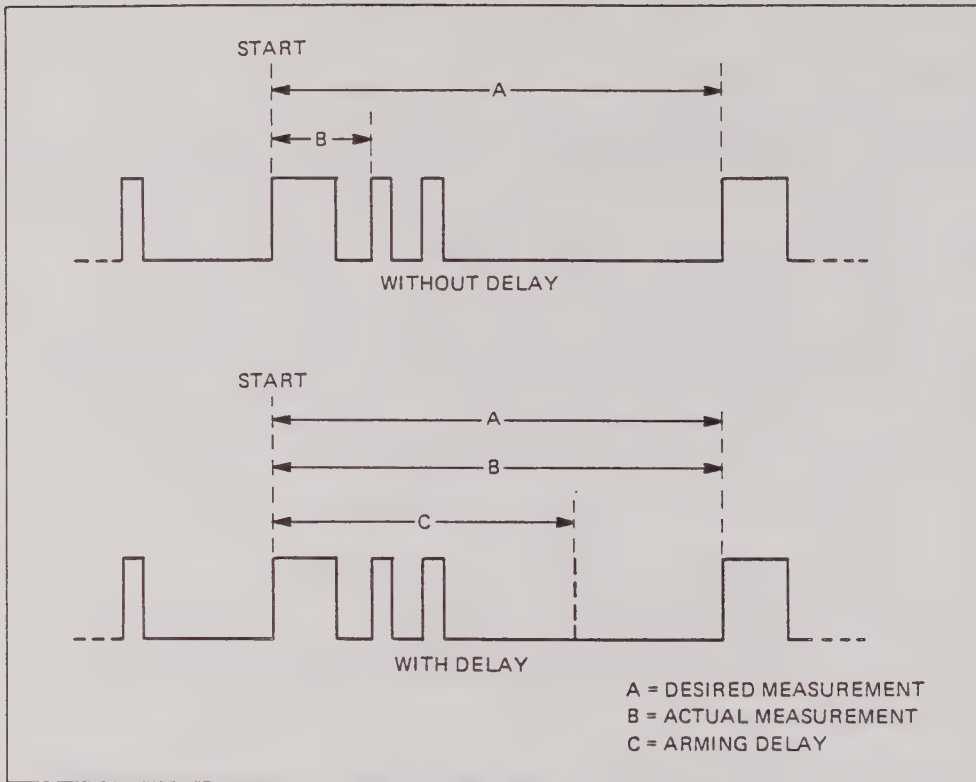

Figure 3-2. Use of Stop Arm Delay
3.5.4.2 The stop arm delay can be useful in preventing premature triggering of the stop circuit by spurious signals (e.g., those resulting from relay contact bounce). Figure 3-2 shows the principle of the stop arm delay.